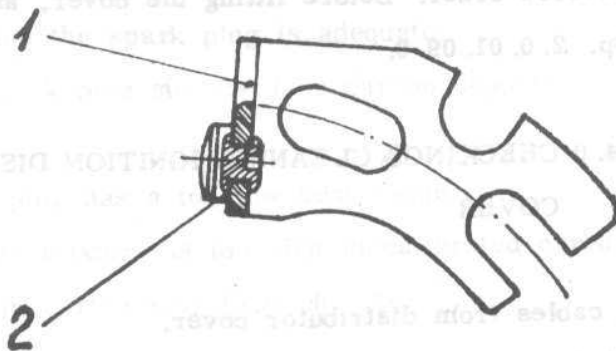

Fig. 4. 29. FIXED CONTACT PLATE (ASSY)
- Remove fixed contact plate and adjust fixed contact (point) by means of a fine watchmaker's file, removing oxidized metal, giving to the contact a shape of spherical cap, symmetrical to its axis (see fig. 4. 29).